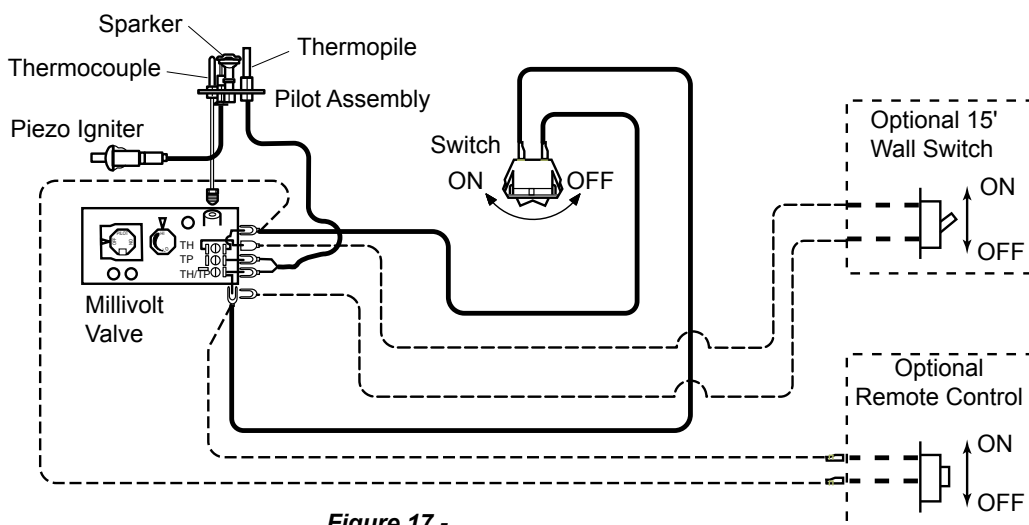

**Figure 17 -**
A remote wall switch and up to fifteen (15) feet of 18 Ga. wire may be used with this appliance. Attach the wall switch in a junction box at the desired location on the wall. *Figure 17* Verify proper operation after servicing.